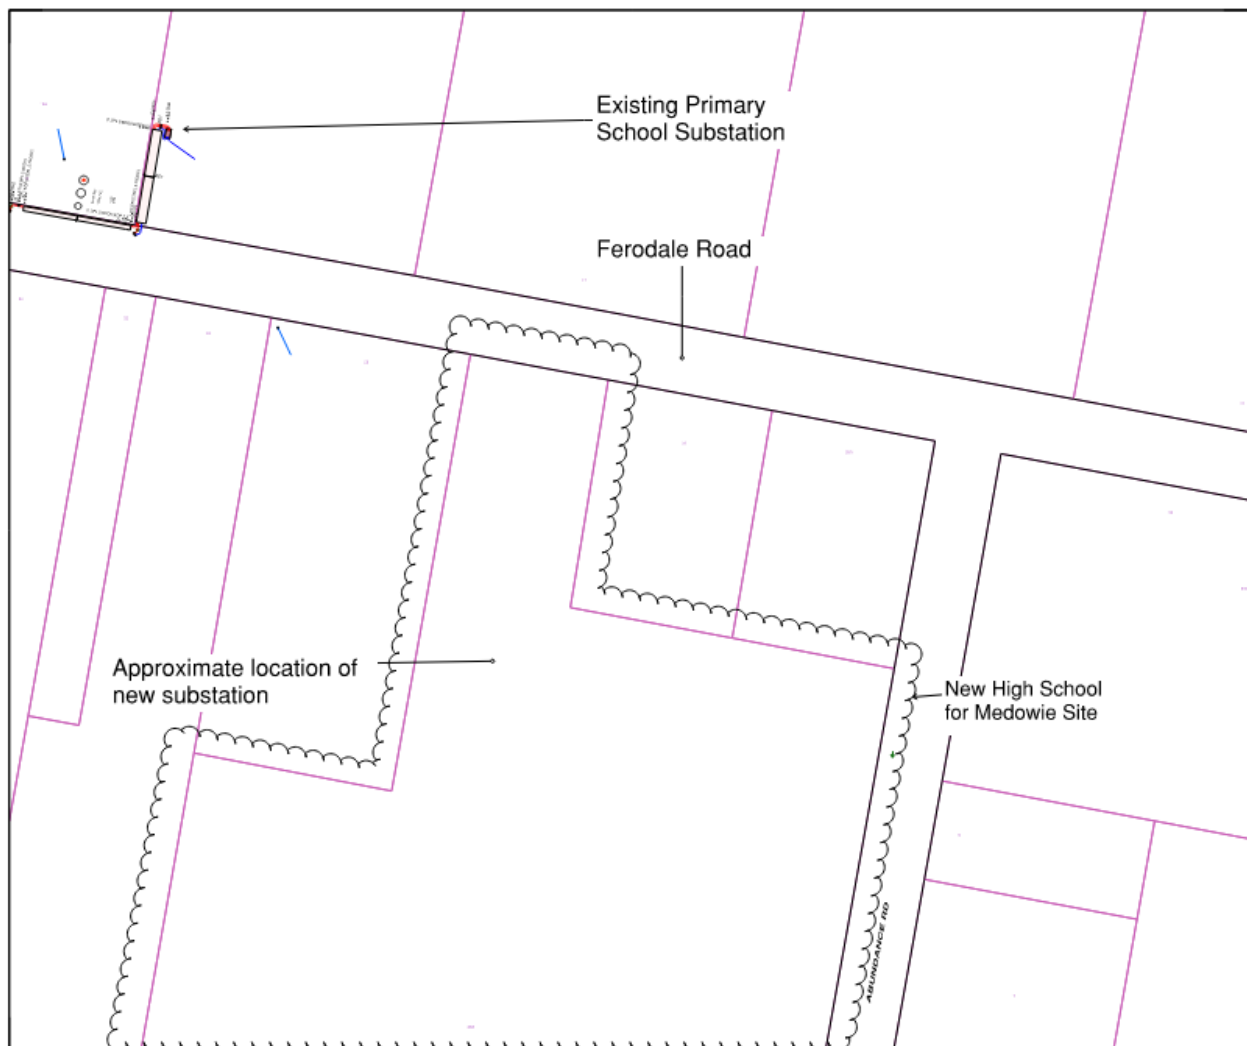

Figure 1 BYDA Ausgrid existing services
The Ausgrid BYDA plans indicate that there are currently no existing High Voltage (HV) cables or substations at the site perimeter. The nearest HV connection is located at an existing kiosk substation that supports the existing primary school. Figure 1 BYDA Ausgrid existing services illustrates the existing HV connections.